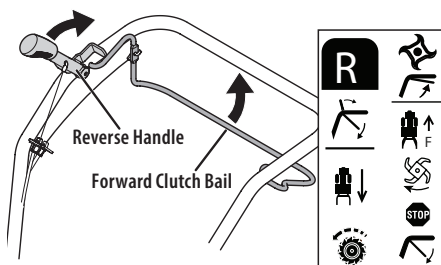

Figure 17
- When tilling, relax and let the wheels pull the machine while the tines dig. Walk behind and a little to one side of the tiller. Use one hand, yet keep a light — but secure — grip on the handlebar (while keeping your arm loose). Let the tiller move at its own pace and do not push down on the handlebars to try and force the tines to dig deeper — this takes weight off the wheels and reduces traction. See Figure 17.